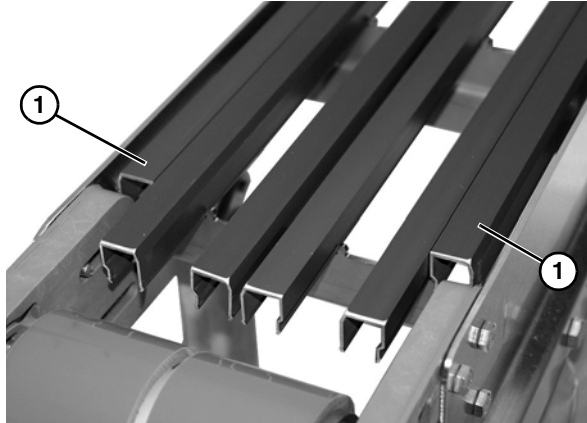

Figure 33
*If conveyor belt is not easily removable, removing the outer bed rails (**Figure 33, item 1**) will allow the idler tail end to rotate further and allow the belt to be removed.*